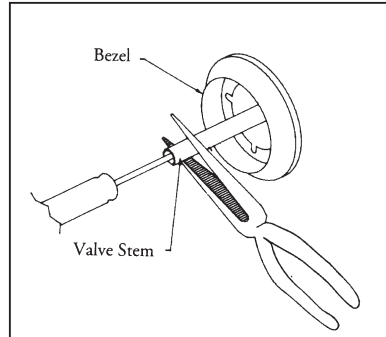

**FIG.08 Low Setting Adjustment**
4. While holding the valve shaft with pliers, insert a thin, flat tipped screwdriver into the shaft and while viewing the burner adjust to a minimum stable flame (Fig. 08).